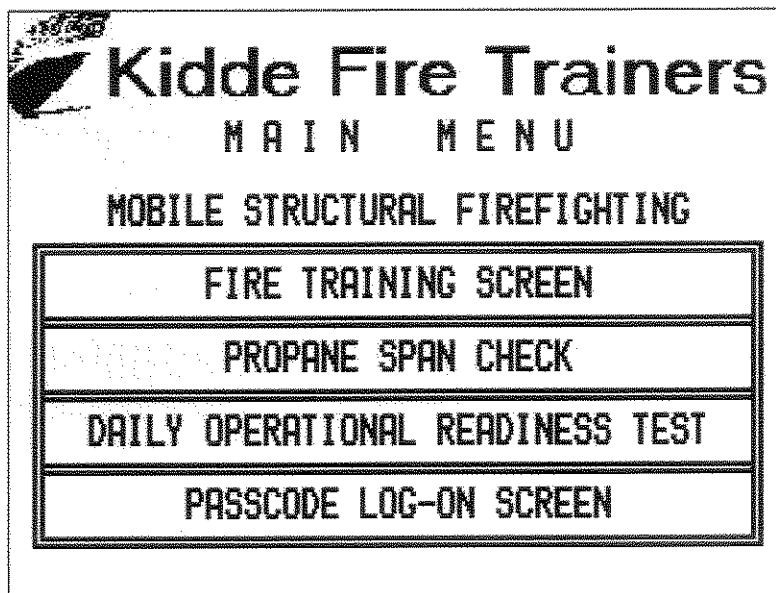

Figure 3-18 Main Menu Screen
4. After a successful pass code is entered, a MAIN MENU screen is displayed (See Figure 3-18).